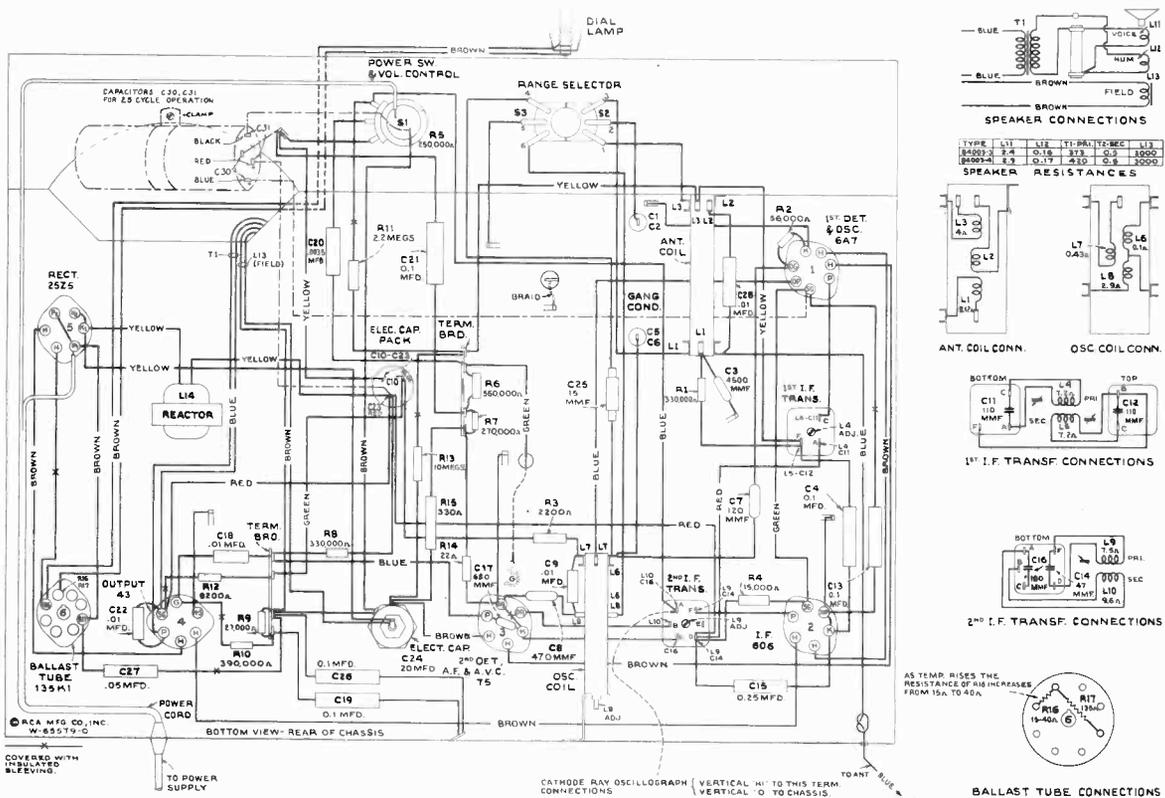

Figure 3—Chassis Wiring Diagram
**Operation on 25-Cycle A-C Supply**—For 25-cycle operation, install RCA Stock No. 14767 capacitor pack and clamp under chassis below speaker and make connections as shown dotted on figure 3. Use a No. 6-32 machine screw for anchoring clamp in hole provided.
Cathode-ray alignment is preferable; the connections to the chassis are shown on figure 3. If an output indicator is used, connect it across the loudspeaker voice-coil and advance the receiver volume control to full-volume position.